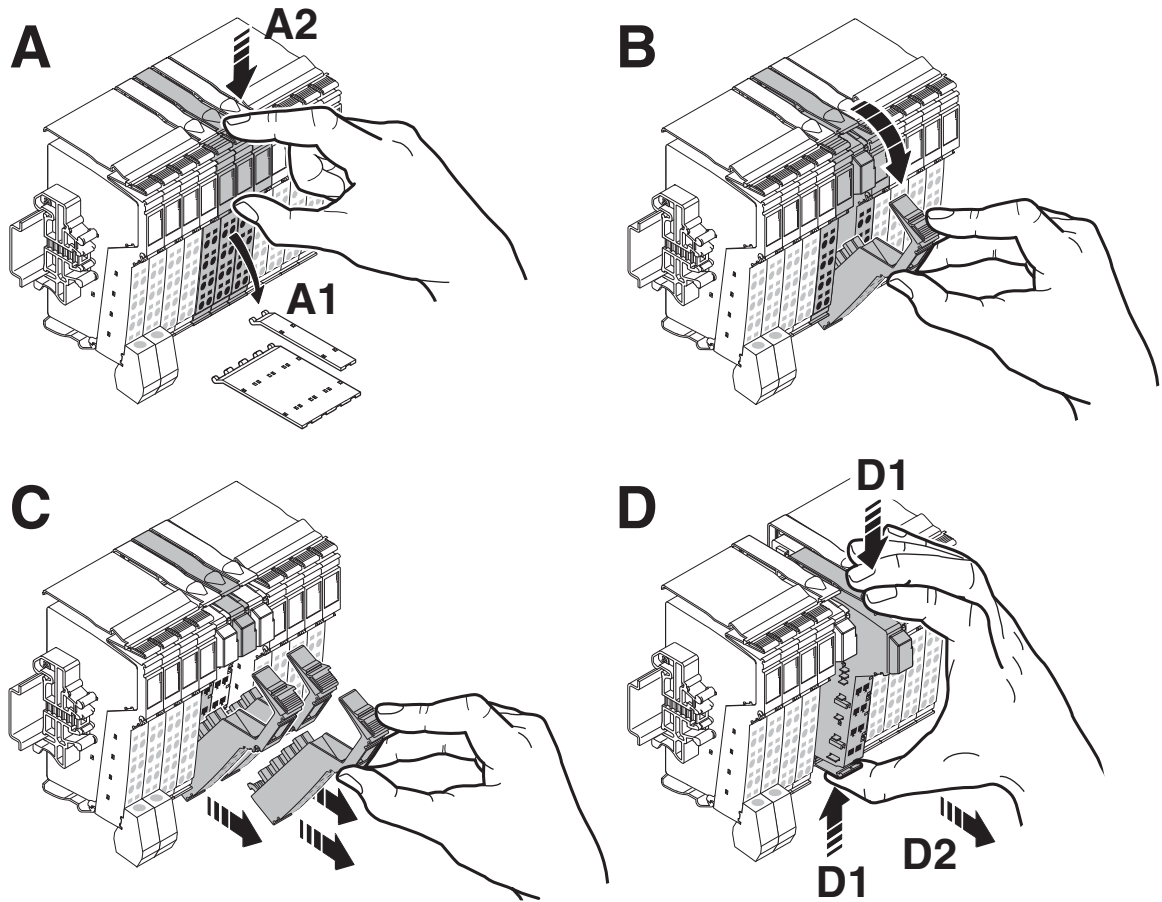

Figure 9-12 Removing a terminal
When removing a terminal, proceed as shown in Figure 9-12 on page 114:
- If adjacent terminals belong to the 24 V DC or 120 V AC/230 V AC area: Remove the adjacent connectors of the neighboring terminals (Figure 9-12 on page 114). This prevents the potential routing knife contacts and the keyway/featherkey connection from being damaged.